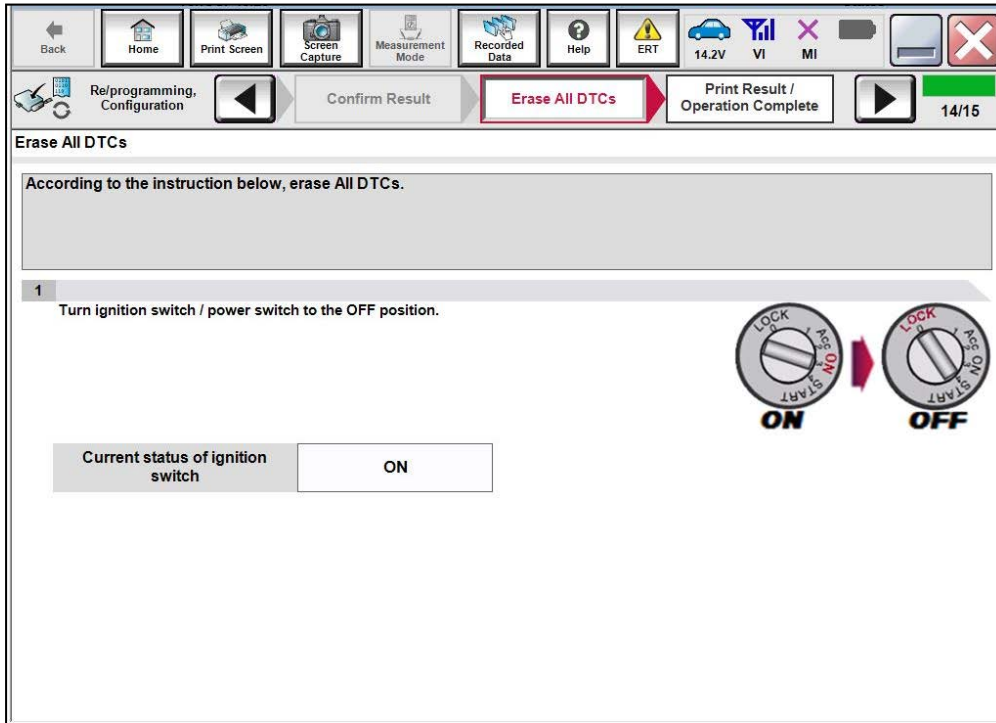
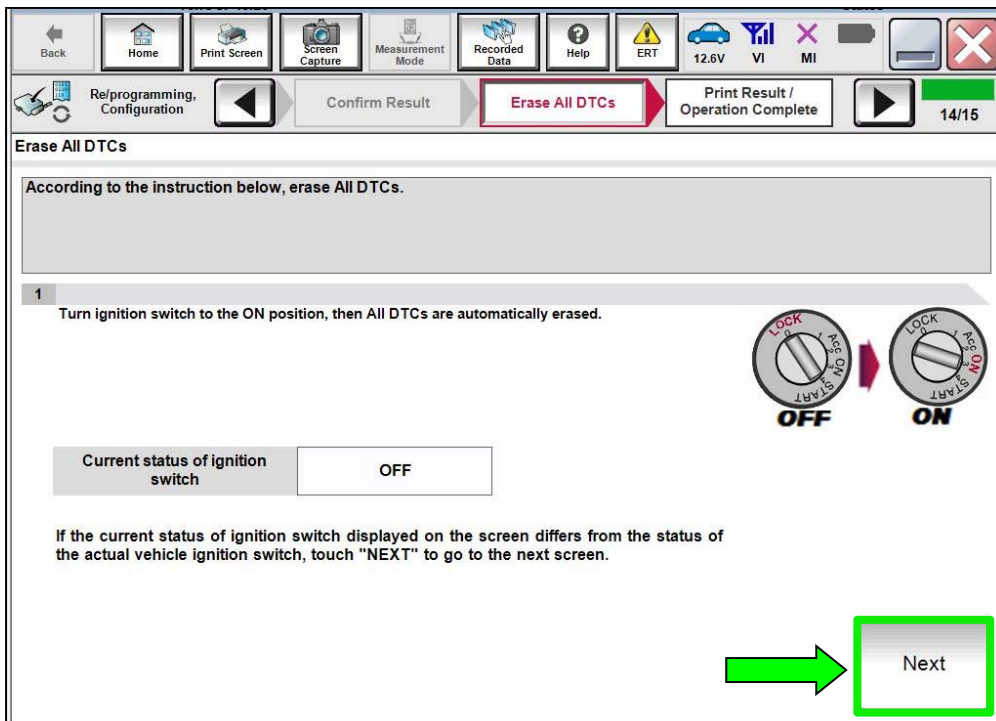

Figure 17
Figure 18
- Follow the on-screen instructions as shown in Figure 17 and Figure 18.